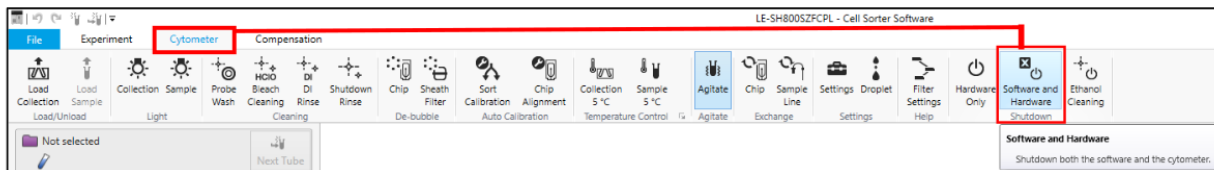

Figure 37
- a. Click the Cytometer tab (Figure 35a) and find the icon in red box shown in Figure 37 and click and follow the instruction steps. Be sure to do the bleach and DI water rinse (again, this takes around 10 min) and keep DI water in the probe.